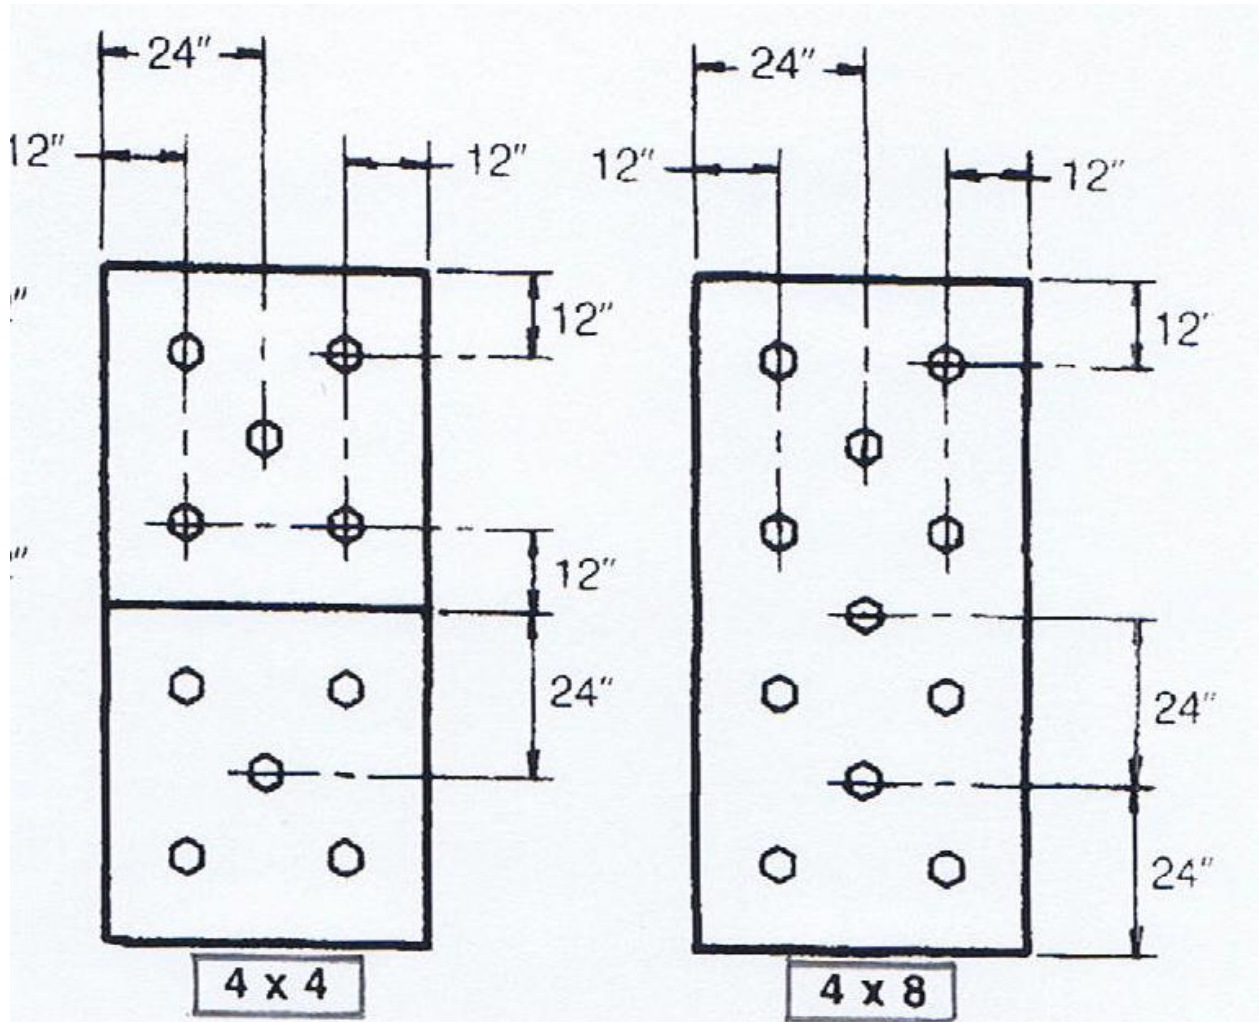

Figure 1. Insulation Fastening Patterns
Insulation: Two layers of 2" H-Shield by Hunter Panels insulation over 5/8" DensDek. Secured to the steel deck with Dekfast No. 14 x 7" long insulation deck fasteners and Dekfast steel stress insulation plates. The insulation plates are 2-7/8" across the plate and can be hexagonal, square, or circular. Use a minimum of five (5) fasteners per 4x4 ft board or ten (10) fasteners per 4x8 ft board. The fasteners must have a minimum penetration of 5 threads through the bottom of the roof deck. Refer to Figure 1 for insulation fastening patterns.